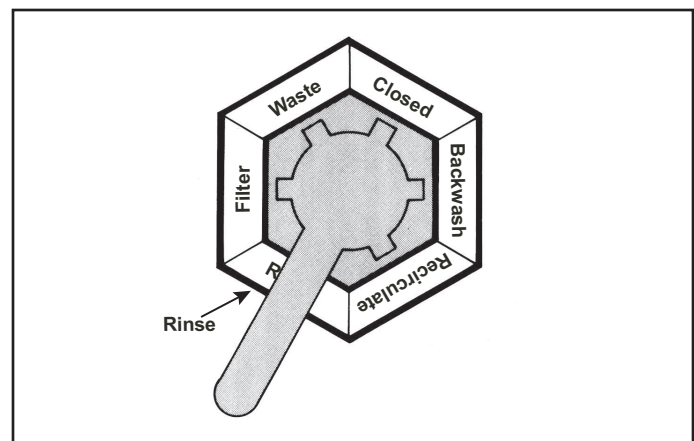

Figure 8. Diverter Valve Handle Positions
1. The flow of water through a DE filter is controlled by an optional backwash valve or two (2) or three (3) port diverter valve.
2. The handle on top of the backwash valve or diverter valve can be moved to different positions. The function of each position is described below. See Figure 8.
5. See Figure 8 for the arrangement of filter grids in the filter grid assembly.